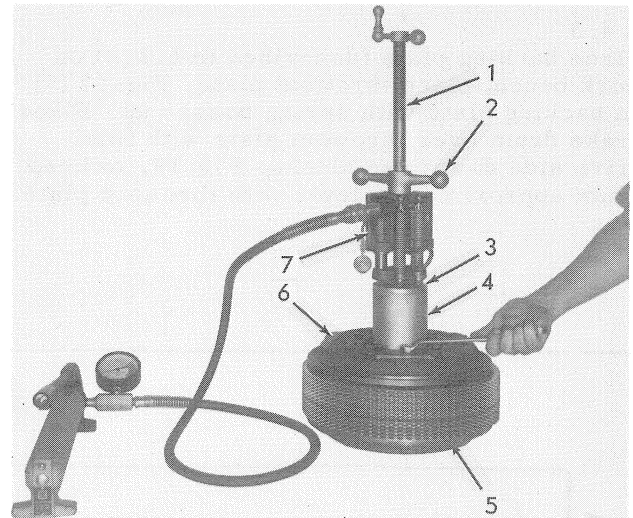

FIG. 16 REMOVING THROWOUT PLATE CAPSCREWS
Remove lock wires from throwout plate cap screws. Place a backing plate under steering clutch throwout plate; backing plate should have an O. D. of slightly less than throwout plate O. D. and a tapped hole in center to accept the forcing screw, Fig. 16.
Insert forcing screw, Fig. 16 (1) into backing plate (5) under throwout plate. Install tube (4) over forcing screw and against the top of clutch hub. Install tube end plate (3), hydraulic ram (7), and lock nut (2) over forcing screw. Compress steering clutch springs to release tension from throwout plate cap screws; remove cap screws. Slowly release hydraulic pressure until tension is off of steering clutch springs; remove tools.